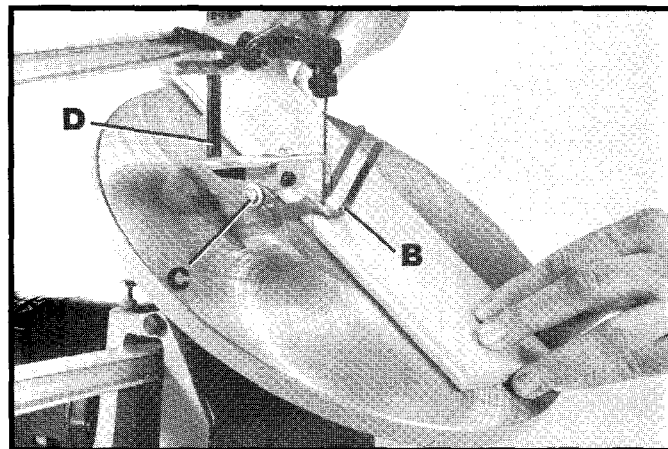

Fig. 32
When bevel cutting, the holddown (B) Fig. 32, can be adjusted to lay flat on the stock by loosening screw (C) and tilting the holddown (B) accordingly. Then tighten screw (C).
If the workpiece is too thick, causing the stock to contact the holddown arm (D) Fig. 32, the complete holddown assembly must be removed, since thick stock is heavy enough to resist lifting off the table during the blade up stroke.